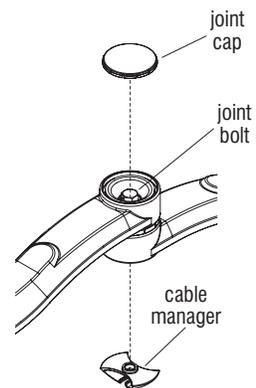

Figure 3 - Adjust the Torque
1. Remove joint cap from the top of the joint using a small flat head screwdriver (Figure 3).
2. Unscrew the cable manager from the underside of the joint (Figure 3).
3. Holding the joint bolt in the top of the joint with a $\frac{9}{16}$ " socket, use a second $\frac{9}{16}$ " socket on the nut in the bottom of the joint to adjust the torque setting (Figure 3).